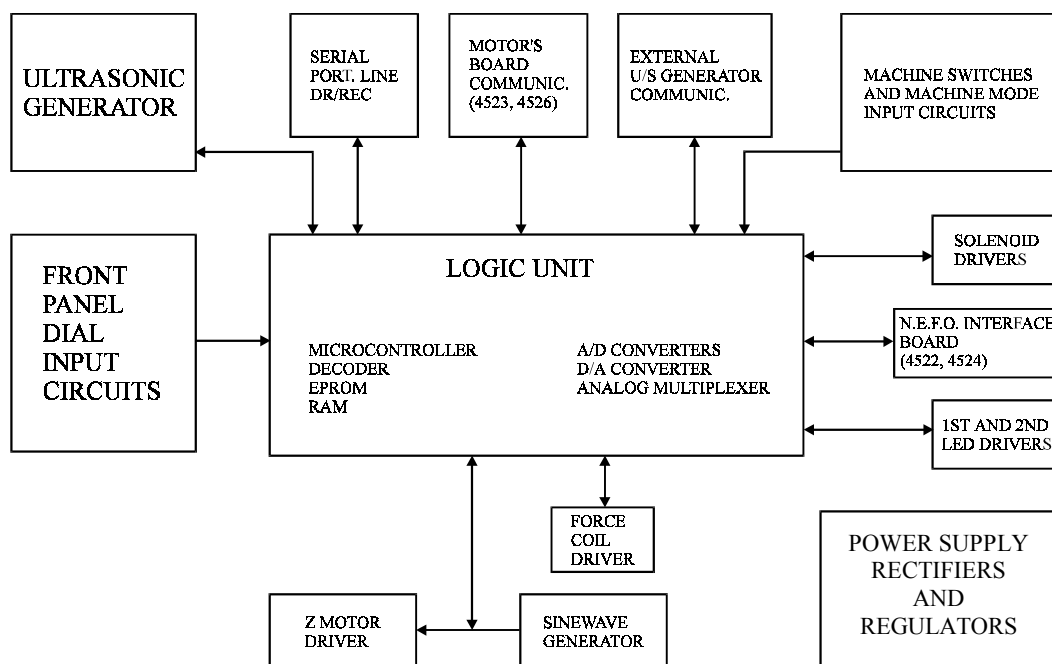
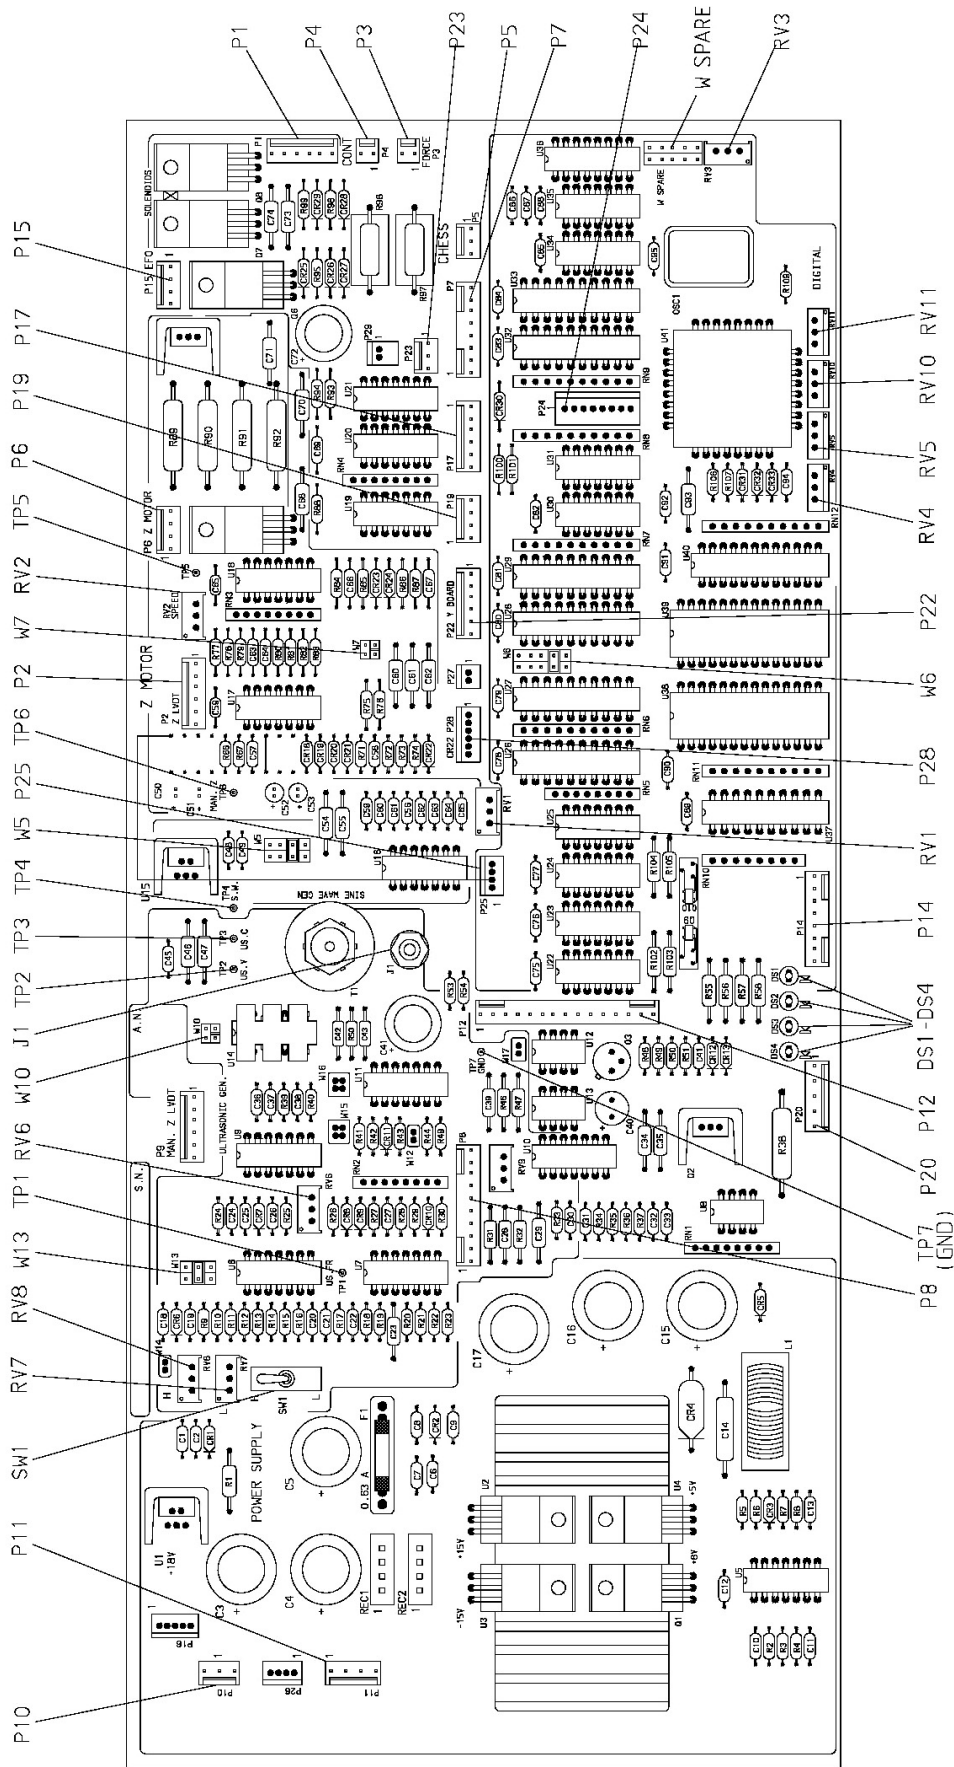

Figure 8-5: Logic Board Block Diagram
Figure 8-6: Logic Board Layout
The block diagram of the logic board is shown in Figure 8-5. The detailed schematic of the board is shown in Figure 8-6.
The logic board's connection points and their functions are listed below. The physical location of each connector is shown in Figure 8-6.
The logic board contains a number of adjustment controls. These controls are listed below. Their locations are shown in Figure 8-6.
The logic board provides test points for measuring various signals. These test points are described below. Their locations are shown in Figure 8-6.
- 4 Align the new logic board supplied in the kit with the nylatch fasteners and gently snap it into place. Reconnect all harnesses to their proper connectors on the new logic board. See section 8.1.3.8 and Figure 8-6 to verify that the connections are correct.
- 2 Connect the oscilloscope (or multimeter) probe to TP4 (S.W.) and the ground to TP7 (GND) (see Figure 8-6). Check that a sharp, non-distorted, 18 Vp-p sine wave appears in the oscilloscope display (or that a 6.37 Vac (Vrms) reading appears on a multimeter).
- 3 If the voltage does not equal 18 Vp-p, adjust the voltage to this value using the RV1 trimmer. (see Figure 8-6).
- 1 Disconnect the transducer from J1 on the logic board (see Figure 8-6).
- 3 Connect the counter leads to TP1 (US. FR) and TP7 (GND) (see Figure 8-6).
- 1 Set switch SW1 (see Figure 8-6) to the LOW position.
If it is necessary to change the factory-set speed, insert a screwdriver in trimmer RV2 (see Figure 8-6):